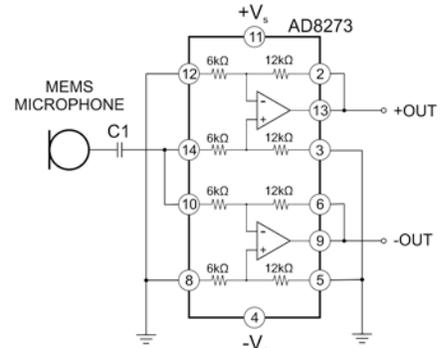

Figure 2
**Preamp Stage:** For a microphone preamp, we use an AD8273 dual difference amplifier which offers very low noise and distortion. The balanced line configuration shown in Figure 2 is redrawn from the MEMS Application Note 1165 (see: [http://www.analog.com/static/imported-files/application\\_notes/AN-1165.pdf](http://www.analog.com/static/imported-files/application_notes/AN-1165.pdf)), page.5. The microphone signal is applied to one inverting and one non-inverting input of the preamp. C1 removes the 0.8VDC offset from the microphone and we have a balanced line output. Notice that the AD8273 has internal resistors we can use to configure the gain. We simply jumper the external pins to obtain our choice of gain from 1/2 to 4. These internal resistors are far more precise than any external resistors and they have more consistent thermal coefficients, thus, they assure excellent Common Mode Rejection (CMR). They also reduce the parts count and cost of the board. We configure the resistors here for a gain of +2 and -2 for a combined gain of 4.